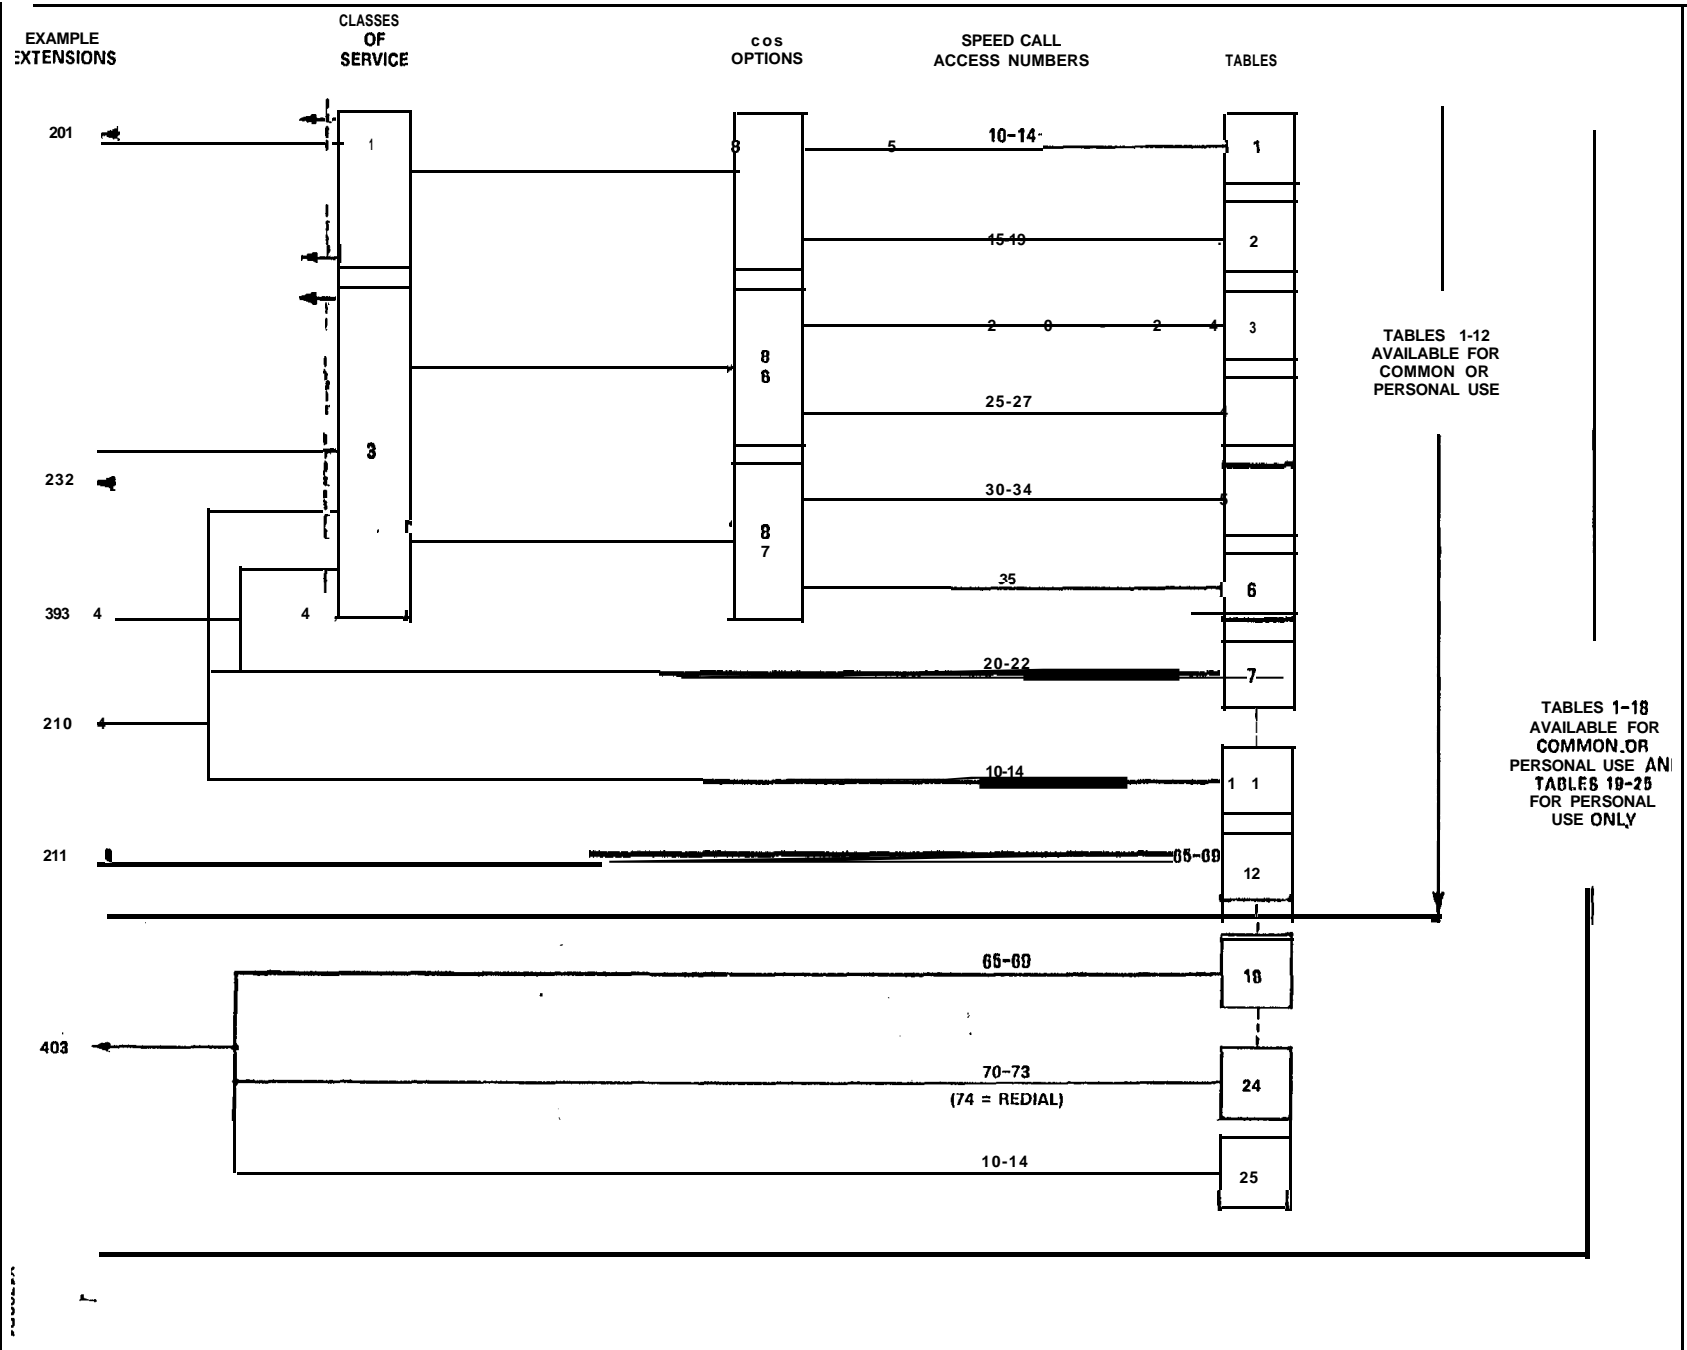

Figure 2-1 Speed Call System Allocations
2.12 It should be noted that any of the first 18 tables may be programmed as a personal table if required, in which case it will not be available as a common-use table. Common-use tables are made available to groups of stations by setting Class-of-Service options (see Figure 2-1).
- (b) Speed call entry access numbers are not predefined on a one-to-one basis with a table, as is the case for common-use tables (Table 2-I). See the typical example in Figure 2-1, which shows that Access Number range 10-14 is fixed for Table 1, but the same range is programmed for Table 11 when it is a personal table.
2.16 In order to illustrate the description of the Speed Call feature, an example is given in Figure 2-1. This example should not be considered typical, in that certain aspects have been emphasized to illustrate all possible combinations which may occur under different circumstances. These aspects are discussed with respect to the following areas:
2.17 The tables (as shown in Figure 2-1), are assigned as a mix of common-use and personal tables. Tables 19 through 25 may be used only as personal tables. Tables are assigned in pairs by means of COS options (Table 2-2), when used as common-use tables, but are separately assignable when used as personal tables; for example, Tables 18, 24 and 25 are shown as assigned to Extension 403.
- 2.18 The assignment of speed call entry access numbers shown in Figure 2-1 emphasizes the following points:
2.21 Programming the Classes of Service will determine which groups of stations may access particular groups of common-use tables. For example, in Figure 2-1 the members of Class of Service Number 1 may only access Tables 1 and 2. These Classes of Service can then determine the particular needs of groups of stations within a PABX system, and are configured accordingly. Table 2-3 illustrates the various parameters discussed above, as they apply to Figure 2-1.
(See Figure 2-1 for which the following characteristics apply.)
3.03 Form SC-1 is used to list a speed call table as a common-use table or as a personal table. It includes data concerning the equipment number and COS assignments, and whether the saved number redial facility is enabled for any of the tables. This information is tabulated and is then used in conjunction with Form SC-2 to perform table programming. The information is also used to provide the attendant, and a personal table user with basic data (required to define the speed call numbers). An example of Form SC-1, based on Figure 2-1, is shown at the back of this Practice.
3.08 The COS options govern the station access to the numbers in the common-use tables. Each COS option allows access to a pair of tables. See Figure 2-1 for an example of this application. If any of the Tables 1 through 18 have been assigned as a personal table, then only the assignee may have access to it, irrespective of a COS option setup.
3.15 The particulars are obtained from Form SC-1 after all programming has been completed, and the PABX is returned to its normal operating state. When so inscribed, the SC-3 forms are given to the user for the numbers to be defined (Part 4) and distributed as indicated in paragraph 3.13. An example of Form SC-3 completed for Table 6 (Figure 2-1) is shown at the back of this Practice.
3.17 An example of this type of entry, based on Figure 2-1, is shown in Figure 3-2.